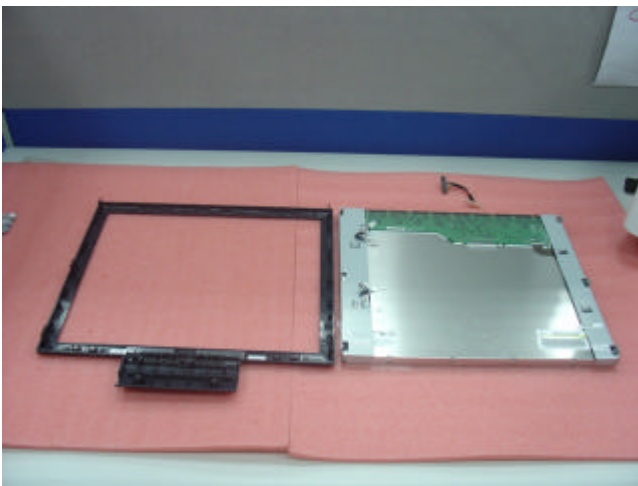

Figure 19
2.15 Separate the bezel & panel (with BKT) & remove the cable on panel (Figure 19)